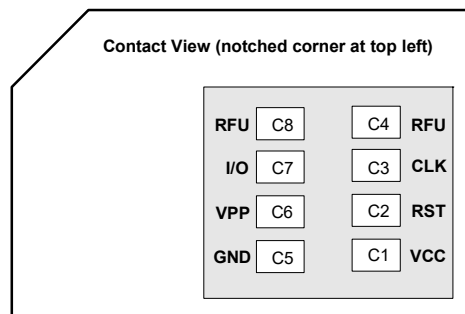

Figure 2-6: SIM Card Contacts (Contact View)
a. See Figure 2-6 on page 27 for SIM card contacts.